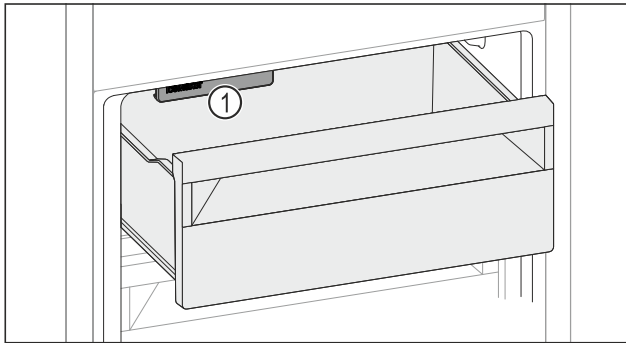

Fig. 235
- ▶ Watch out for the IceMaker Fig. 235 (1).